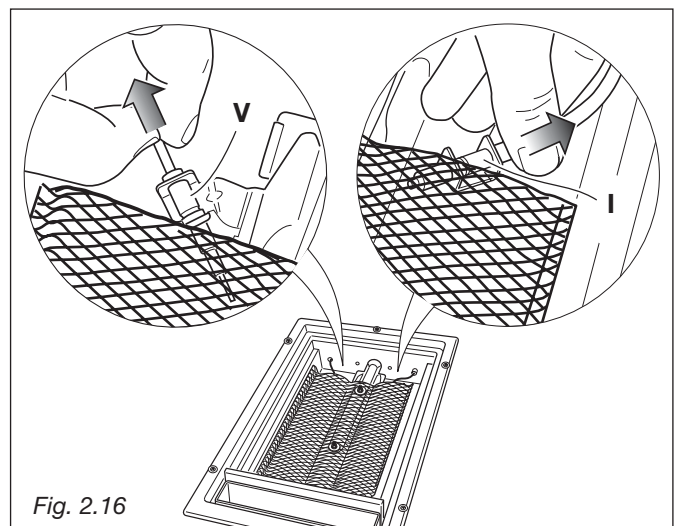

Fig. 2.16
- Gently unlock the safety valve probe "V" and the ignition electrode "I" (fig. 2.16). Take care not to damage the probe and the ignition electrode.